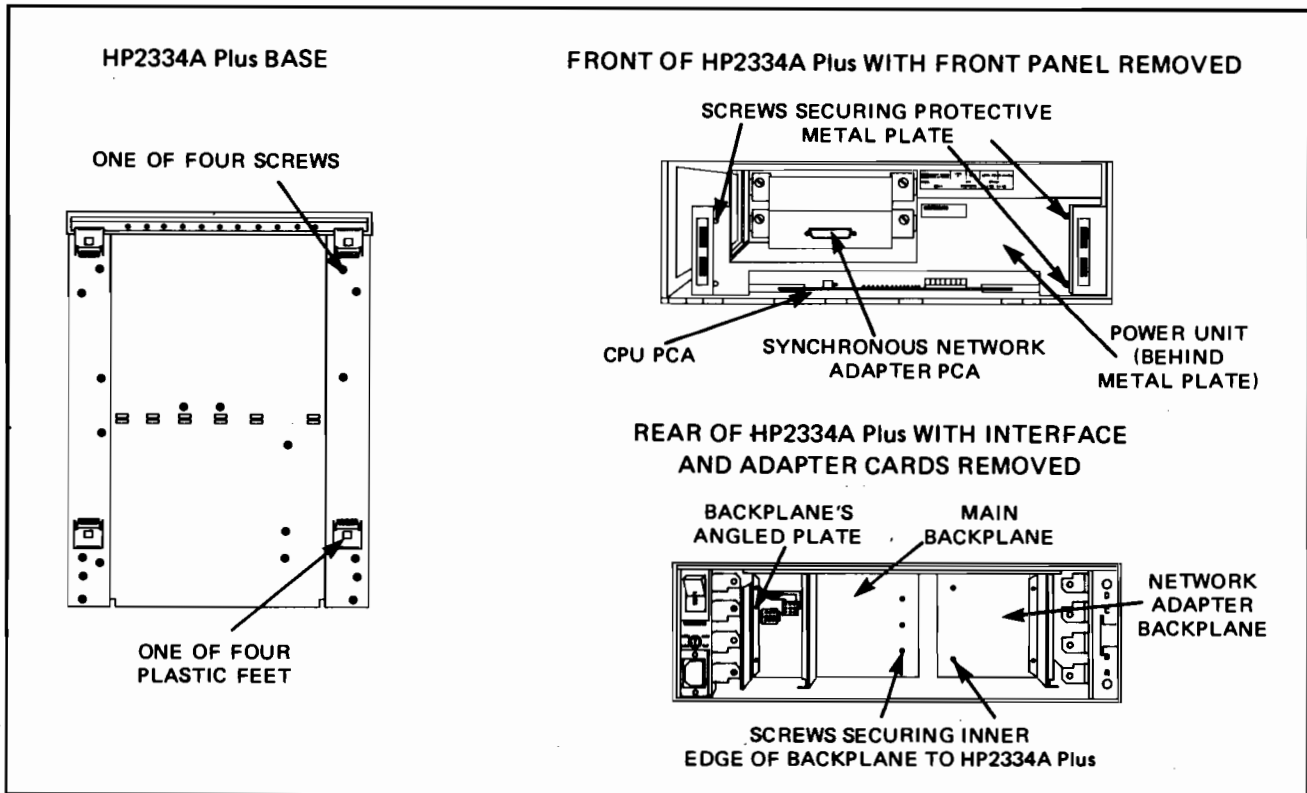

Figure 15-1 The HP2334A Plus Cabinet Assembly
- 2) Stand the HP2334A Plus front face down on a clean, dry, solid bench so that its base is vertical (see Figure 15-1).
Unscrew and remove the cross-head screws securing the inner edge of the backplane to the HP2334A Plus card cage (see Figure 15-1). There are three screws on the inner edge of the Main Backplane and two on the inner edge of the Network Adapter Backplane.
- 4) The outside edge of each backplane is held in position by an angled metal plate (see Figure 15-1). For the Main Backplane, the angled metal plate is secured to the HP2334A Plus card cage by two of the screws used to secure the fan. Thus once the fan is removed, the main backplane is then free to be removed. For the Network Adapter Backplane, the angled metal plate is secured in position by two cross-head screws. The two screws must be removed before the backplane is free to be removed.